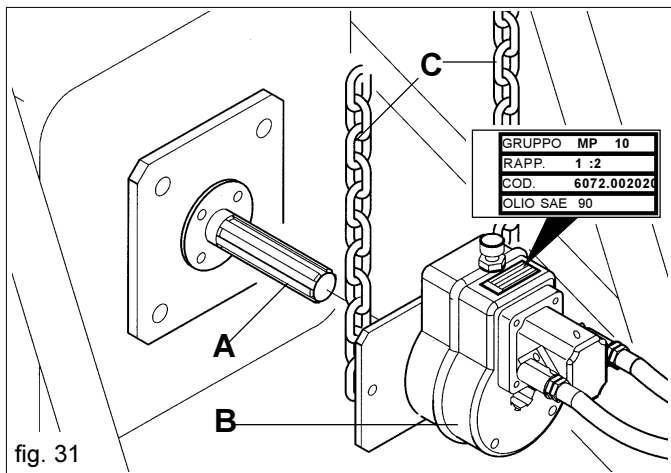

fig. 31
If you wish to increase the number of revolutions of the fan for distributing heavier seeds, carefully proceed as follows (Fig. 31):
- loosen the handwheel (A Fig. 31);
- rotate the handwheel (B Fig. 31) clockwise or anticlockwise to reduce or increase pressure and adjust the number of revolutions of the blower accordingly.
It is strictly forbidden to touch act on the dowel (C Fig. 31) for any reason, as this would unset the system and could lead to the motor or pump breaking.